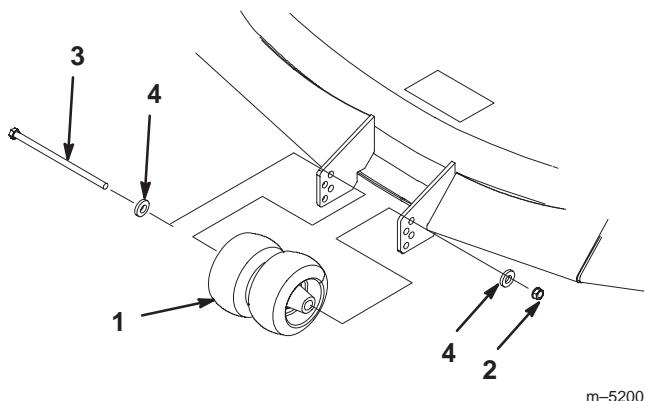

Figure 22
1. After adjusting height-of-cut remove bolt, washers and nut (Fig. 22).
2. Select a hole position so the gage wheels are a minimum of 3/8 in. (10 mm) off the ground for the height-of-cut to be used (Fig. 22).
3. Reinstall the bolt, washers and nut (Fig. 22).